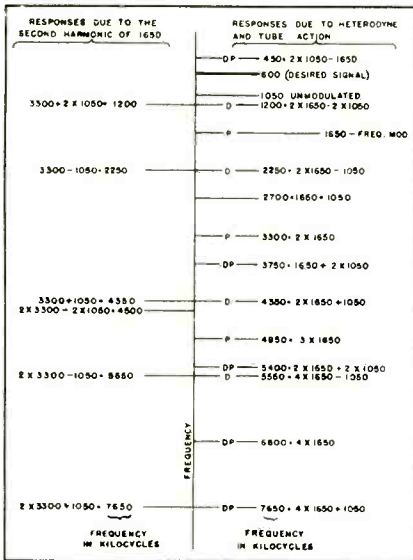
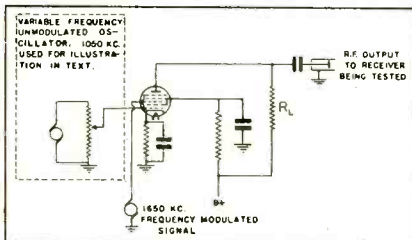

Fig. 3. The various responses that may be encountered in a beat-type signal generator with a fixed-frequency oscillator generating 1650 kc.
Fig. 2. General principle employed in beat-type signal generators.
mode of variation of the frequency of the signal generator. Curve B represents the manner in which the frequency of the signal generator varies about its center frequency as time progresses. Curve C represents the response of the set (voltage across the resistor R in Fig. 3) during a complete cycle of frequency variation.
jecting lines from the various points the manner in which curve D is traced by the moving spot is made apparent. By following the consecutive points of curve D, it can be seen that the two loops form a single closed figure. As the set is tuned to higher and higher frequencies above the center frequency, the section of curve D represented by line 5-6 will rise higher and higher on the screen, so that the right-hand loop of the curve tends to collapse. At the same time, the left-hand loop of curve D, represented by points 6-17, will become more and more distorted until, when the set is tuned to a frequency sufficiently high or low, the voltage across the resistor R, Fig. 3, will be practically zero and both traces disappear.
Fig. 2 illustrates the general principle which has been employed in practically all generators to date to accomplish the heterodyning of the frequency modulated signal to the desired test frequency. For illustration, a 6L7 tube is shown as the frequency mixer, and on one of its control grids is impressed a frequency modulated wave of 1650 kc mean frequency, while the other grid is driven by the unmodulated signal from a self-contained or external oscillator. If an output signal of 600 kc is desired, the last-mentioned signal would be set to 1050 kc so that the resultant signal would be the difference frequency (or  $1650 - 1050 = 600$  kc). Equipment designers have recognized that the output will also contain the sum frequency ( $1650 + 1050 = 2700$  kc), but with the ordinary system there are numerous other frequencies produced which are confusing when rapid service work is being attempted. The seriousness of this confusion is given graphically in Fig. 3, which shows that in addition to the 600 kc desired test signal, fourteen other responses may also be present. If a higher frequency signal is desired, the relative frequencies of these undesired responses will shift frequency in a complex manner and are always a confusion to rapid and certain service testing.
frequency modulated signal, in this case 3300, 4950, etc. (The effects of the second harmonic of 1650 kc, combining with the heterodyne frequency of 1050 kc, are shown at the left of the base line in Fig. 3).
(2) Rectification effects due to derivatives of the rectifier of a higher order than the second. (Marked D above the base line of Fig. 3.)
(3) The firing through of the frequency modulated wave at 1650 kc due to the amplifying action of the tube. This has a practical effect in all frequency modulators because of the overloading effects which may be produced in the receiver due to the high amplitude of this signal. In some receivers this signal may re-combine with other frequencies to produce still other spurious responses within the receiver itself, not shown on the chart of Fig. 3.
pressed by a simple square-law relationship. A square-law relationship between grid voltage and plate current is all that is required for the tube to act as a heterodyne mixer and give the sum or difference of the mixed frequencies in the output. Any higher derivatives result in spurious output frequencies, like those marked D in Fig. 3. For this reason, type 76 tubes were chosen as frequency changers, and were biased to an operating point chosen to be the square-law for the largest applied signals; that is, where the plate current is closely proportional to the square of the grid voltage. This largely sup-